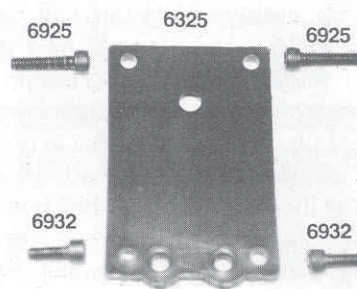

Fig. 82
□ **Fig. 82 & 83** In bag #8-8 you will find the #6325 nylon transmission brace, two #6932 4-40 x 5/16" socket head cap screws, and two #6925 4-40 x 1/2" socket head cap screws. Look at the brace, you will find two holes on the flat end and four holes on the contoured end. The flat end will go over the top of the rear bulkhead and the contoured end will go over the transmission. Use the two #6932 5/16" length screws to secure the brace to the transmission and the two #6925 1/2" screws to secure it to the bulkhead.